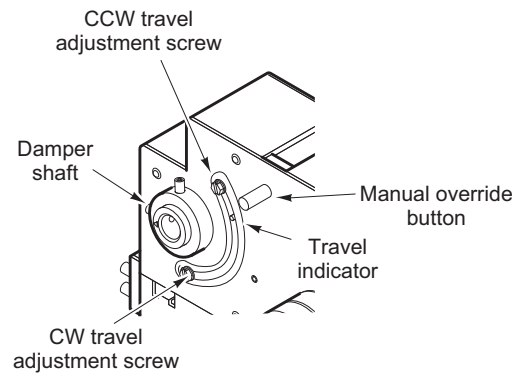

Figure-5 Travel Adjustment.
12. Loosen and slide CCW travel adjustment screw to travel indicator pin, and tighten screw to 28 to 32 in-lb (0.32 to 0.37 Kg-meter) (Figure-5).
13. Loosen and slide CW travel adjustment screw to travel indicator pin, and tighten screw to 28 to 32 in-lb (0.32 to 0.37 Kg-meter) (Figure-5).